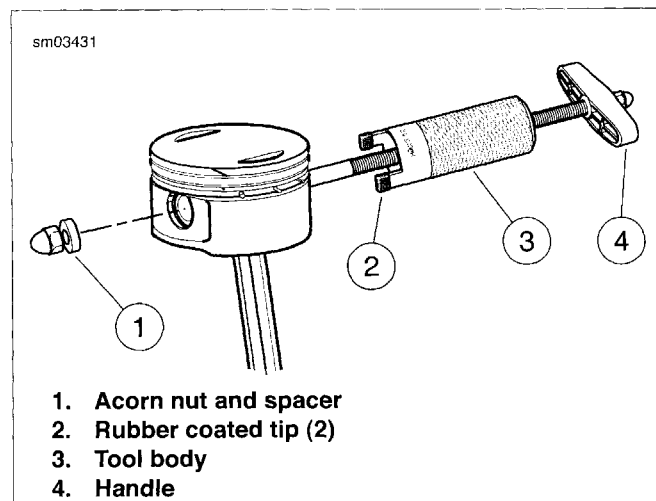
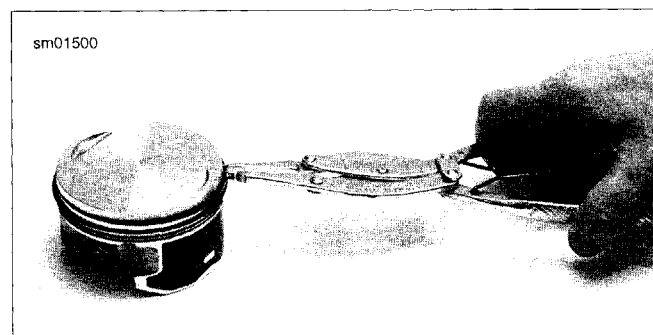

Figure 3-52. Removing Piston Pin with HD-42320-A Piston Pin Remover
Figure 3-53. Removing Piston Rings (typical; XL shown)
- a. See Figure 3-52. Remove acorn nut and spacer (1) from rod end of tool.
- c. Position rubber coated tips (2) of tool on flat on each side of piston pin bore.
- d. Hold tool body (3) and turn handle (4) clockwise until piston pin is pulled free of bore.
12. See Figure 3-53. Spread piston rings outward until they clear grooves in piston and lift off.